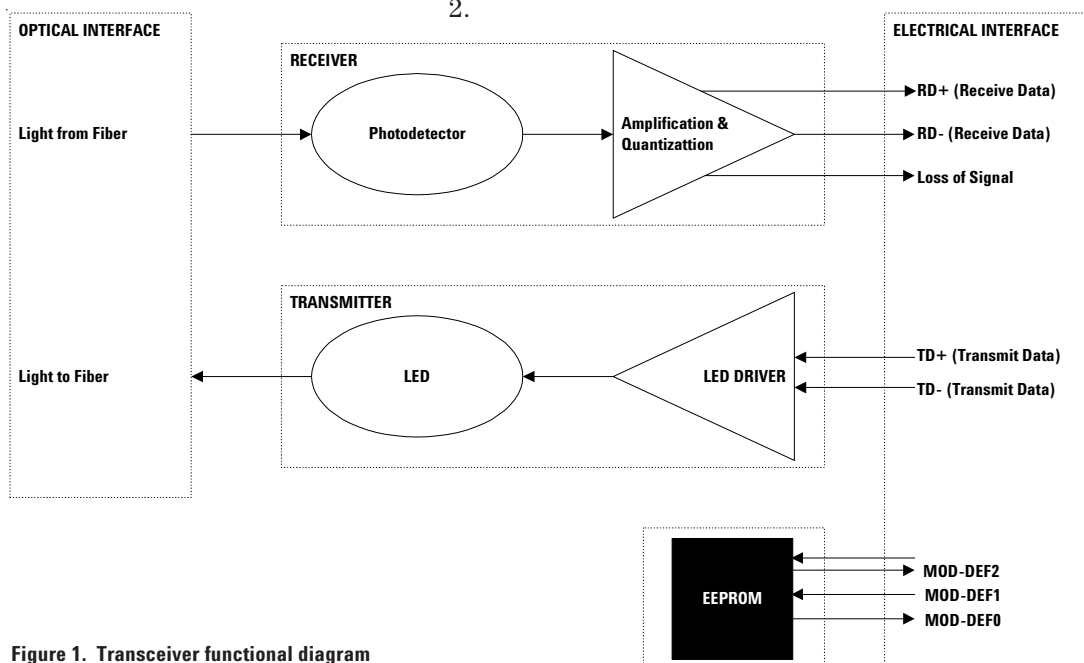
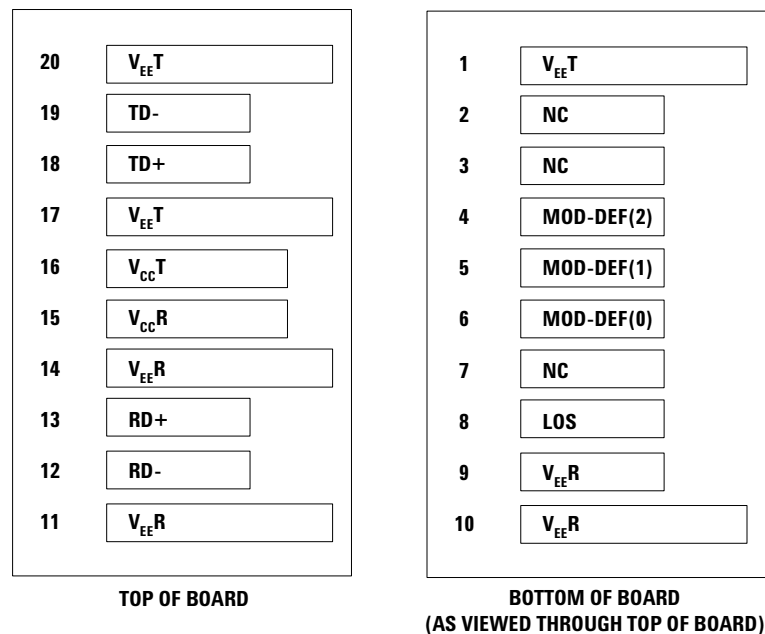

Figure 1. Transceiver functional diagram
Figure 2. Connection diagram of module printed circuit board.
Figure 1 illustrates the major functional components of the HFBR-5760L. The connection diagram of the module is shown in Figure 2. Figures 5 and 7 depict the external configuration and dimensions of the module.
The HFBR-5760L can be installed in or removed from any MultiSource Agreement (MSA) – compliant Small Form Pluggable port regardless of whether the host equipment is operating or not. The module is simply inserted, electrical interface first, under finger pressure. Controlled hot-plugging is ensured by design and by 3-stage pin sequencing at the electrical interface. The module housing makes initial contact with the host board EMI shield mitigating potential damage due to Electro-Static Discharge (ESD). The 3-stage pin contact sequencing involves (1) Ground, (2) Power, and then (3) Signal pins, making contact with the host board surface mount connector in that order. This printed circuit board card-edge connector is depicted in Figure 2.